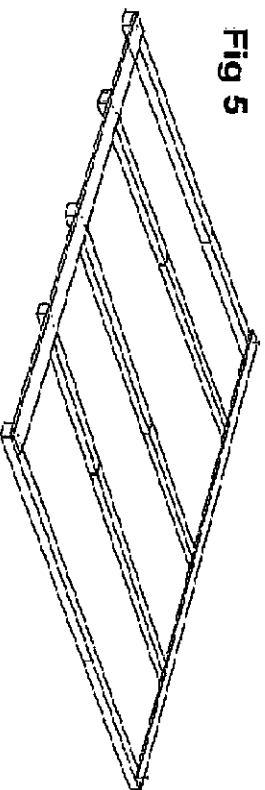

Fig 5
**NOTE:** On longer floors, bearers may come in two pieces, and they will be two different lengths. In this case, the two lengths should be used alternately, so that the joints occur in different places across the floor [Fig 5]